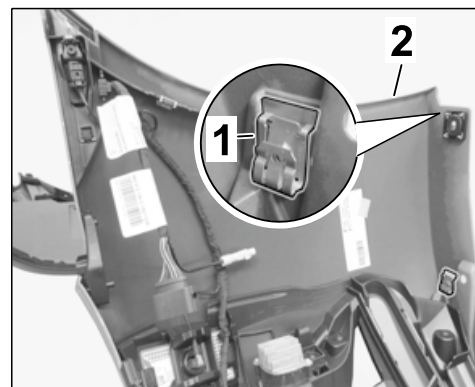

Figure 27
5.8.1 Fit two speed nuts (999.507.309.02) at the left/right ⇒ *Figure 27 -1-* on the front apron.